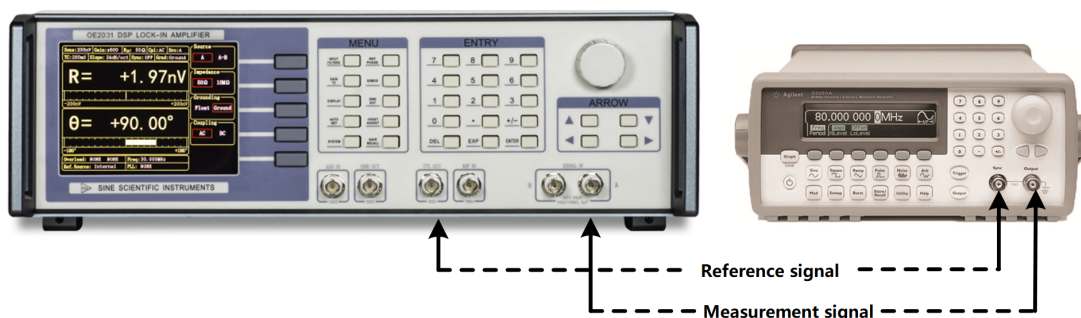

Figure 94. Signal Cable Connection Diagram
2. Use a signal cable with BNC connectors to connect the output connector of the function generator to the IN+ connector of SIGNAL IN on the front panel of the OE2041. Use another BNC signal cable to connect the reference signal connector of the function generator to the REF IN connector on the front panel, as shown in Figure 94.